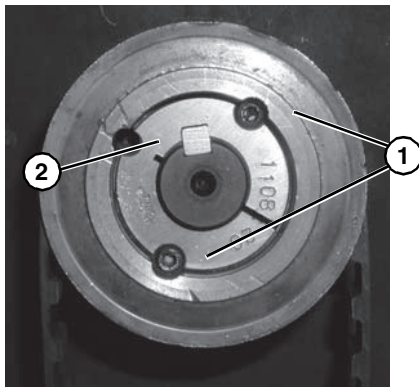

Figure 13
2. Remove taper-lock screws (**Figure 13, item 1**). Insert one (1) of taper lock screws in remaining hole (**Figure 13, item 2**). Tighten screw until pulley is loose. Remove pulley and taper hub assembly.